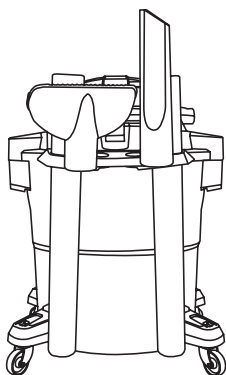

Fig. 30
63. Place vacuum tools in tool holder **18**. **Fig. 30. The vacuum should be stored indoors.**